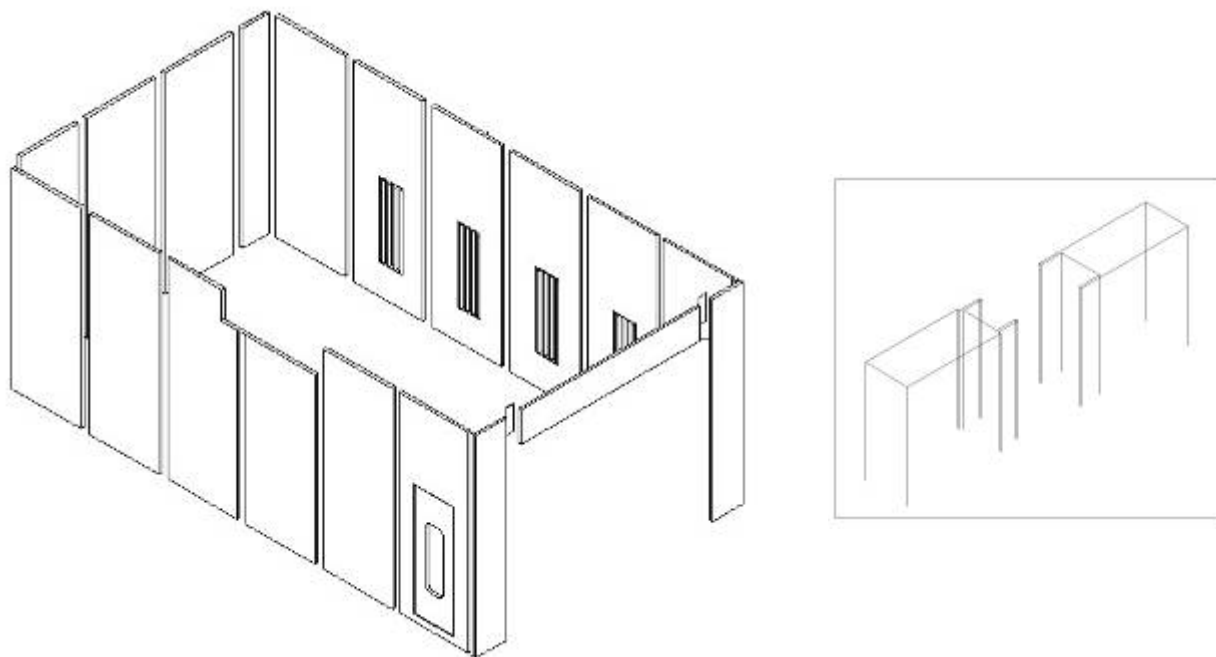

Fig. 3.8
1) connect the wall board in turn and fix it to the down U style slot with nail, make sure the gap should be smallest. Check the whole length of two sides wall board should be suit for the demand. (shown in Fig.3.8)